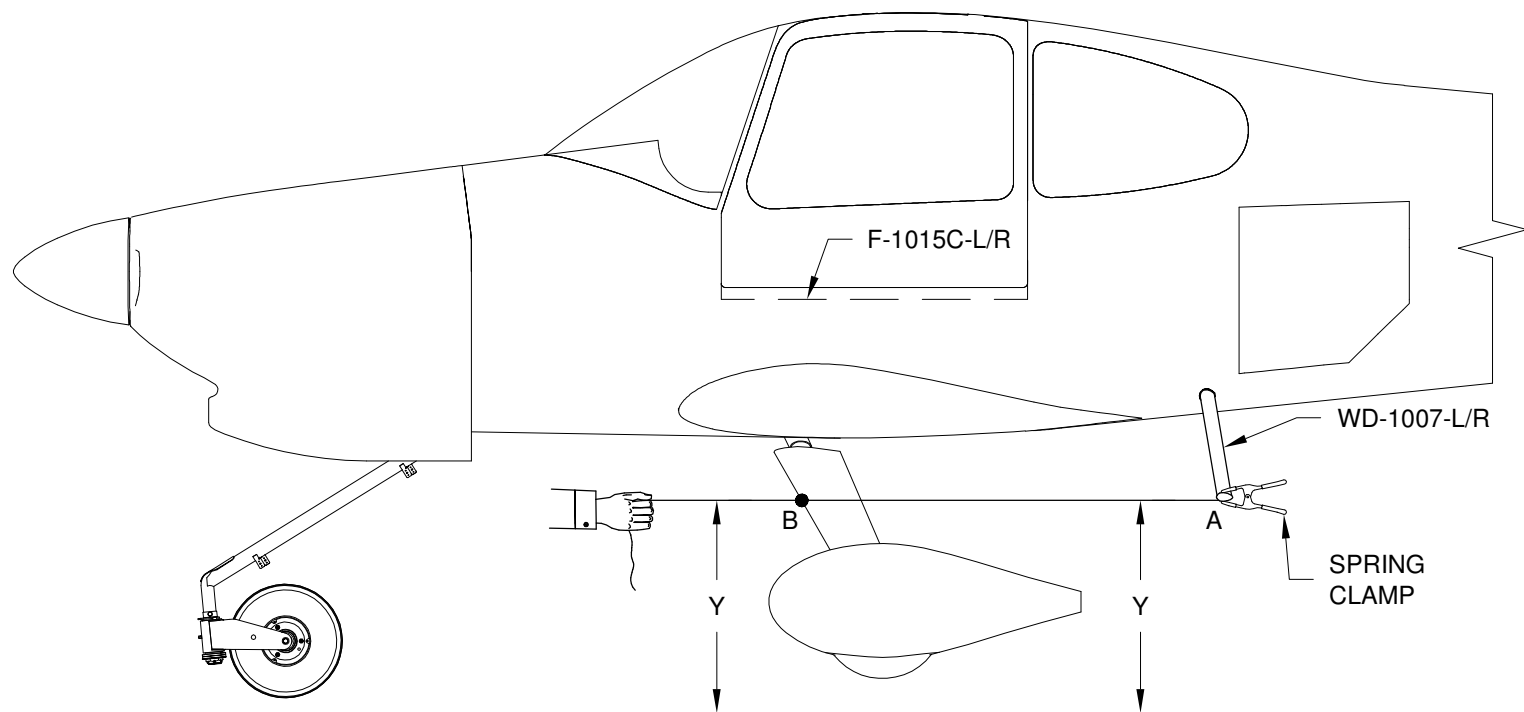

FIGURE 1: LEVELING AIRCRAFT AND ALIGNING GEAR LEG FAIRINGS
Step 3: Wrap a string around the leading edge of the U-1017-L Gear Leg Fairing as shown in Figure 3 at point "B" (see Figure 1) and pull both ends tight to the spring clamp at "A". Be sure the string is level and parallel to the F-1015C-L Mid Cabin Deck. Measuring from the floor will be adequate here. When the leading and trailing edges of the gear leg fairing are centered between the strings as shown in Figure 3 the gear leg fairing is properly aligned.